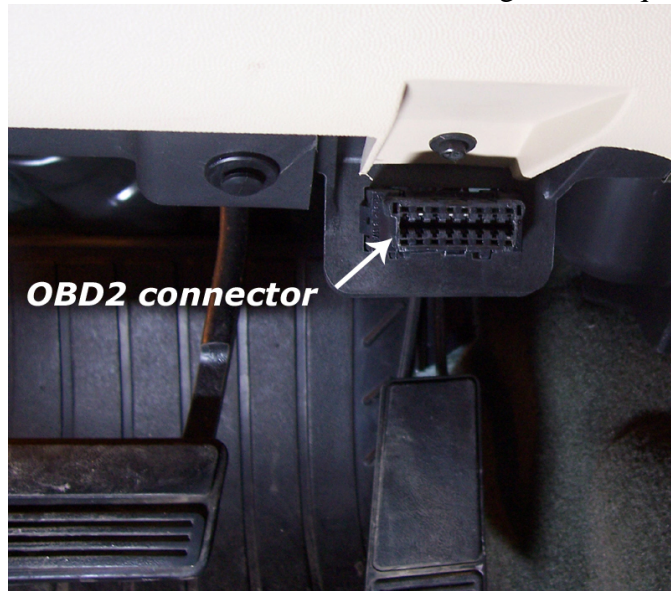

Figure 2
4. **Plug the main cable connector into the OBD2 connector.** See figure 2. The data, ground, and power on certain vehicles such as the Dodge SRT-4, come from this connector.